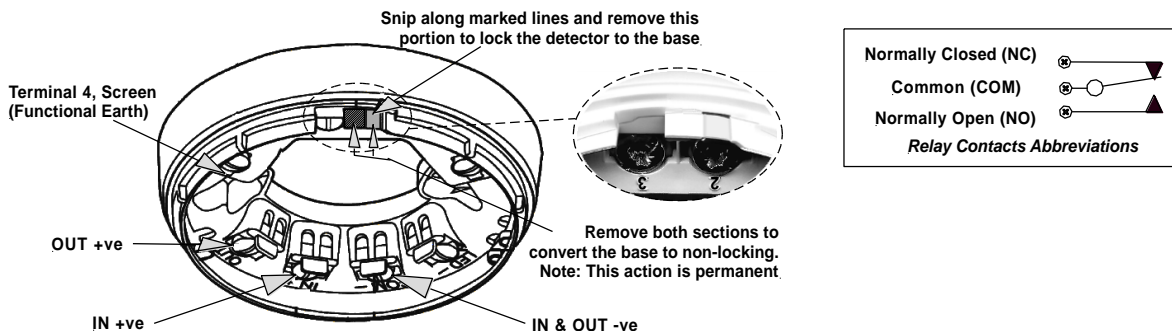

Figure 2: Orbis Bas Locking Mechanism
1. Activate the locking mechanism if the detector is to be locked into the base. To do this, remove the small portion of the base shown in Figure 2 with side cutters or a similar tool.
If the locking mechanism of the Orbis TimeSaver base has been activated in error the base may be converted to a permanently non-locking base by removing the detector and cutting out the small portion of the rim marked with a cross-hatch in Figure 2.